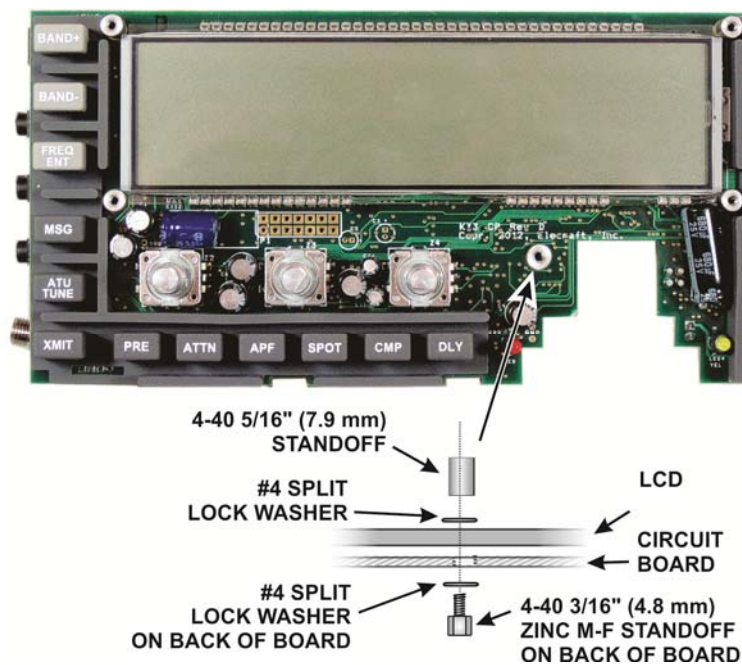

Figure 11. Installing CP Board Standoff Hardware - Part 3.
- ☐ Install the remaining standoff on the CP board as shown in Figure 11. Note that this standoff uses larger 4-40 hardware and a M-F standoff on the back side of the board.